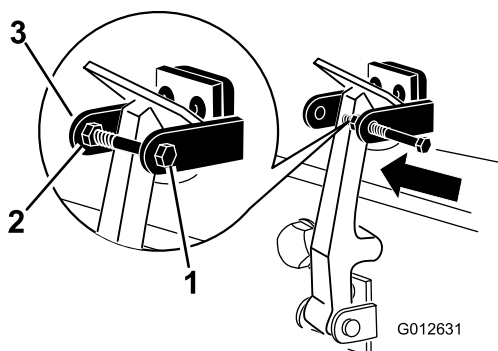

Figure 6
7. Screw the bolt into the other arm of hood lock bracket to lock the latch in position (Figure 6). Tighten bolt securely but do not tighten nut.